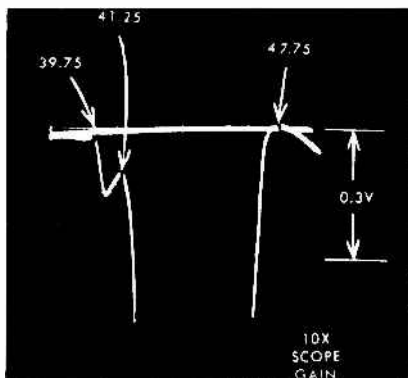

Fig. 7. Expanded View of Traps
6. Refer to Fig. 7 and 8 and adjust the 39.75 Mc 41.25 Mc, and the two 47.25 Mc traps for minimum marker amplitude. (15A26 chassis has one 47.25 Mc trap.) It can be seen that high oscilloscope gain must be used to "run" the response off the screen in order to view a "blow up" of the traps.